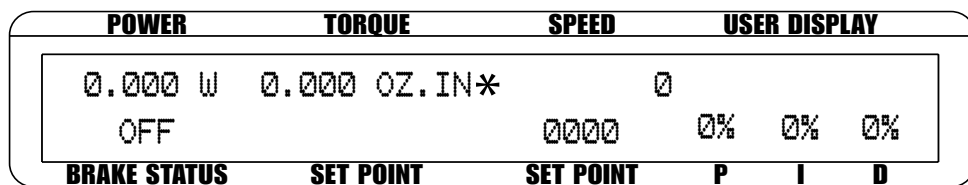

Figure 6–6 Tare function enabled
3. “*” indicator will be displayed as in *Figure 6–6 Tare function enabled*.